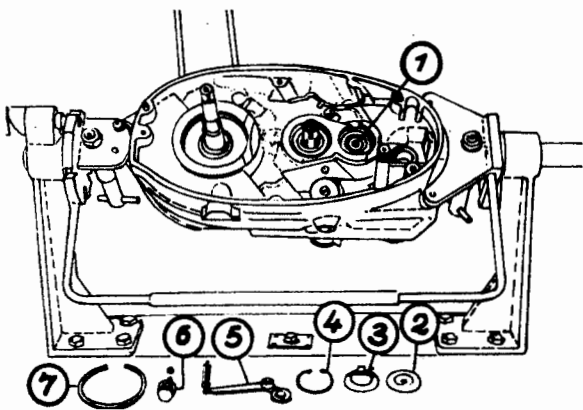

Fig. 17
Mount circlip (4), cap for drive shaft (3) and sealing plate (2) (Fig. 17) and
- (1) bearing 6203
- (2) Force bearing 6204 in place, pressing from outside towards the inside
- (3) Radial seal ring — lip towards the outside, to be mounted after assembling the engine by means of mandrel and sleeve (29-50.409).
- (4) Circlip — open side towards oil feed (5)
- (6) Insert the oil separating disk (rubber) (oil distributor)
- (7) Oil guide disk — recessed portion towards seal ring, punch mark towards oil feed.